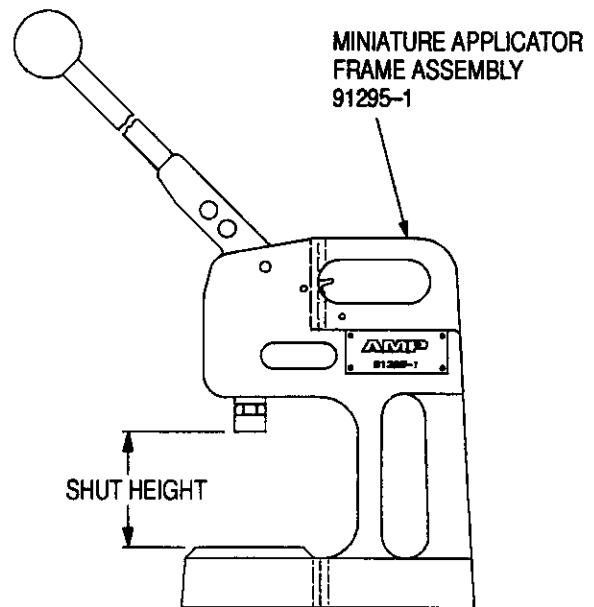

Figure 3
3. SETUP PROCEDURES (Figures 3 and 4)
Set the shut height — distance from the bottom surface of the ram FULLY BOTTOMED to the top of the machine base — to 38.1 [1.50]. Refer to Figure 3. For details on ram height adjustments, refer to 408-9817.
NOTE Set the shut height — distance from the bottom surface of the ram FULLY BOTTOMED to the top of the machine base — to 40.6 [1.60]. Refer to Figure 3. For details on ram height adjustments, refer to 408-9817.